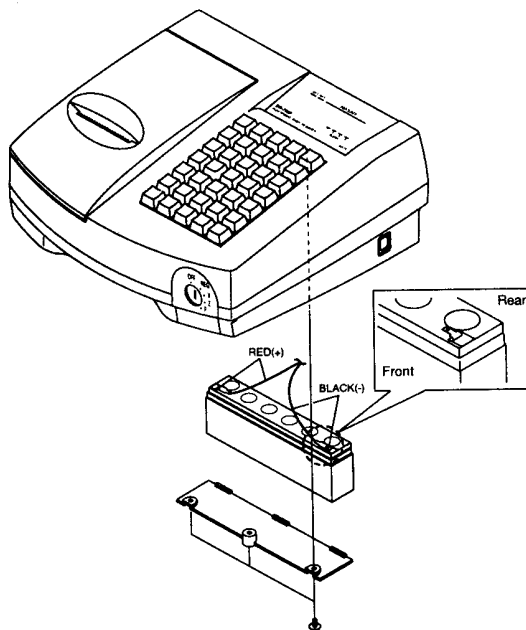

Figure 3-6. Battery Replacement
2. Insert the ribbon cassette as shown in Figure 3-6. Pay particular attention to the placement of the ribbon behind the Print Head.